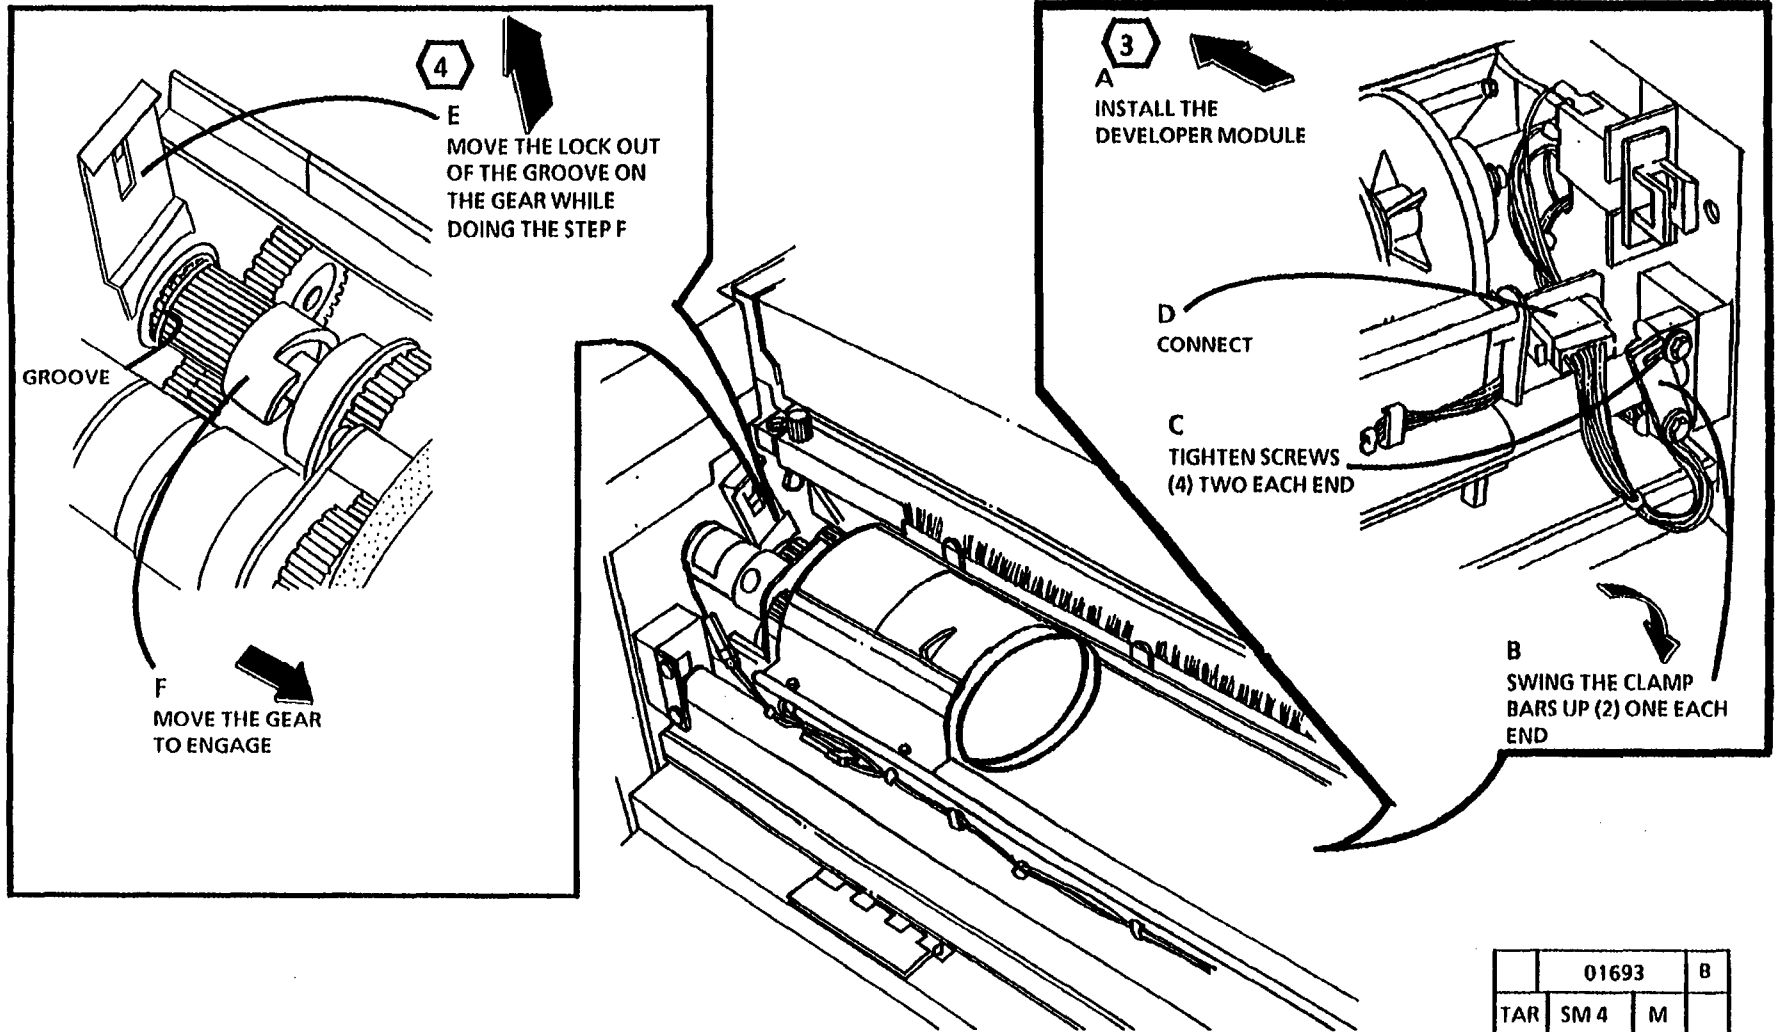

Figure 4. Install the Developer Module
1. (Figure 4): Install the Developer Module.